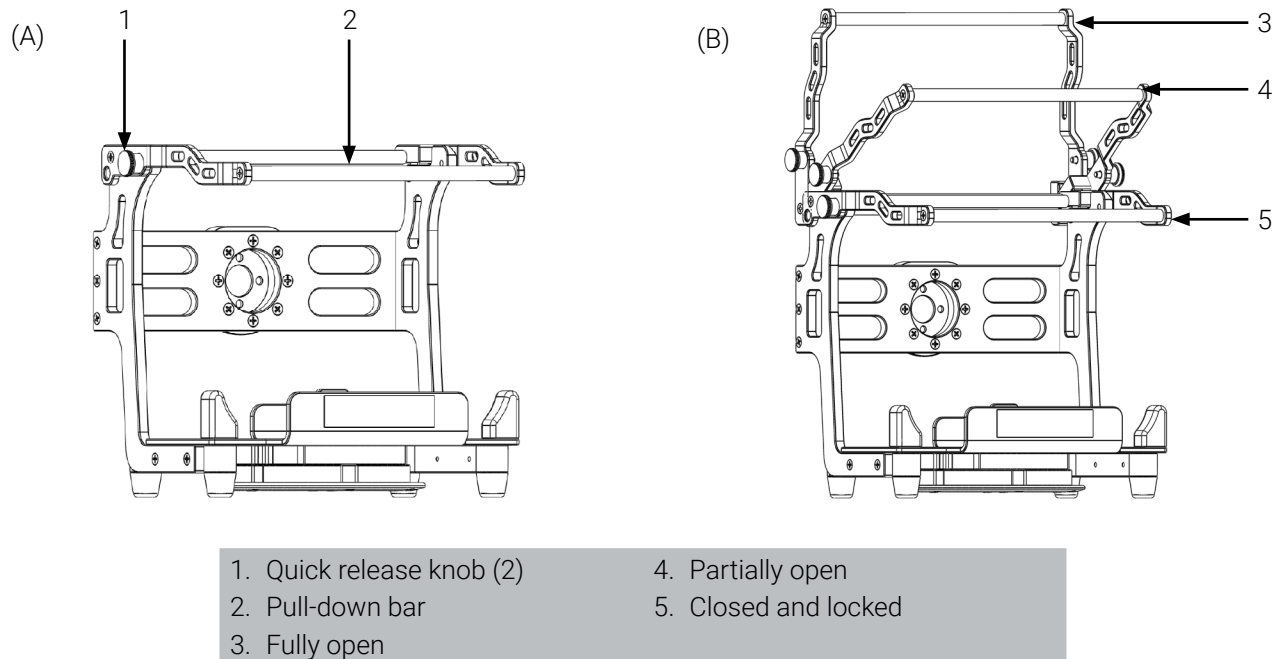

Figure 1: Unlock/open the Bracket Pro Serie 280
1. If the bracket is closed (locked), pull the 2 quick release knobs to disengage the pull-down bar and lift the pull-down bar upwards until it has run its course (Figure 1).